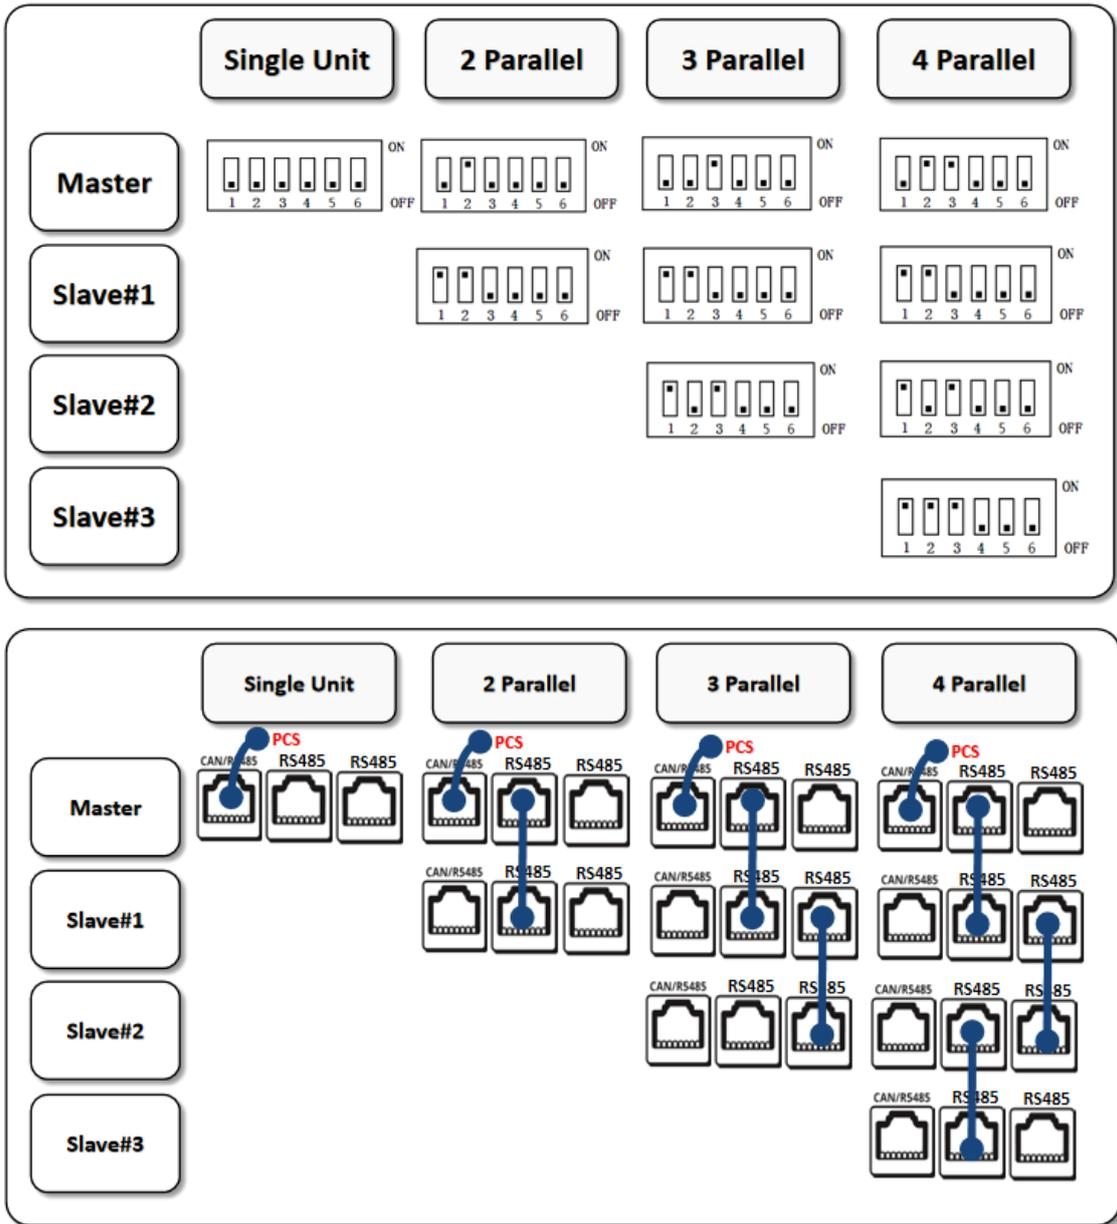

Fig. 5.4.2- Communication port connecting
2. Set the dial code refer to the Fig. 5.4.2.